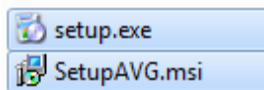

Figure 3.5. Locate and Open Setup.exe
1. Open the SL881_AVG_software_installation folder from your test computer. Click setup.exe (as shown in Figure 3.5) to install the SL-881 AVG software.